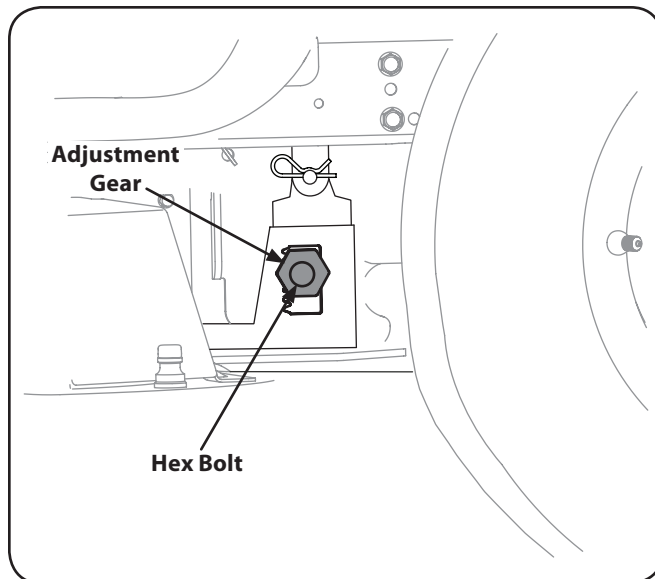

Figure 6-7
3. Loosen, but do NOT remove, the hex bolt on the front left deck hanger link. See Fig. 6-7.
4. Using a wrench, raise or lower the left side of the deck by turning the adjustment gears. See Fig. 6-7.
5. Loosen, but do NOT remove, the hex bolt on the left and right rear deck hanger brackets. See Fig. 6-7.
6. Using a wrench, raise or lower the left and right side of the deck by turning the adjustment gears. See Fig. 6-7.